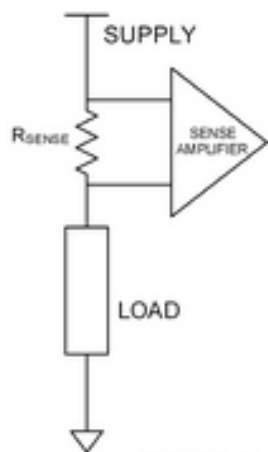

Figure 2 – Typical setup for a high side current sensor. (4)
High side current sensing utilizes a very similar setup to low side except that the resistor and sense amplifier are placed in between the supply and the load. (4) A simple schematic for a high side sensor is shown in Figure 2 below.